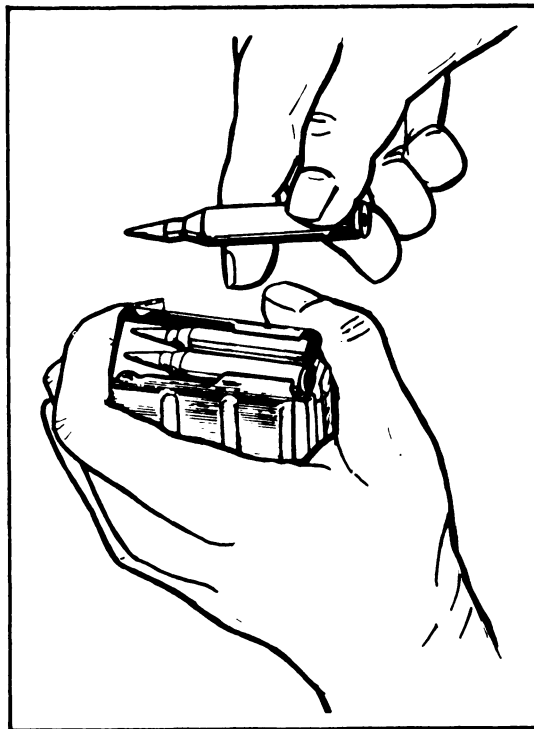

Figure 1.
- b. Cartridges are loaded into the magazine as illustrated in figure 1.